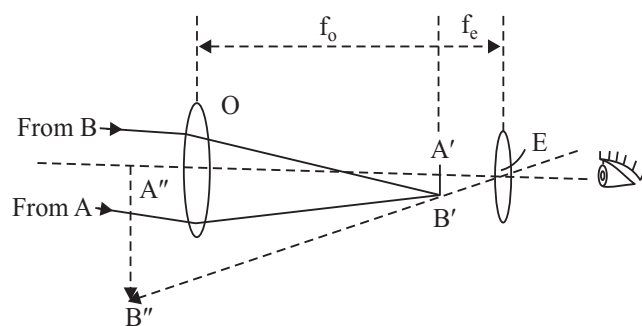

Fig. 19.1: Ray diagram of telescope
- (1) Both lenses must be made of a good ophthalmic or optical glass and not cheap ones made of window glass. It ensures that the image A' B' (Fig. 19.1) has enough details and these are seen clearly by lens E.
- (2) It is preferable that the lenses are plano convex. If so the plane sides of both the lenses will be kept towards your eye. But double convex lenses will also make a good telescope, if these are of good glass.